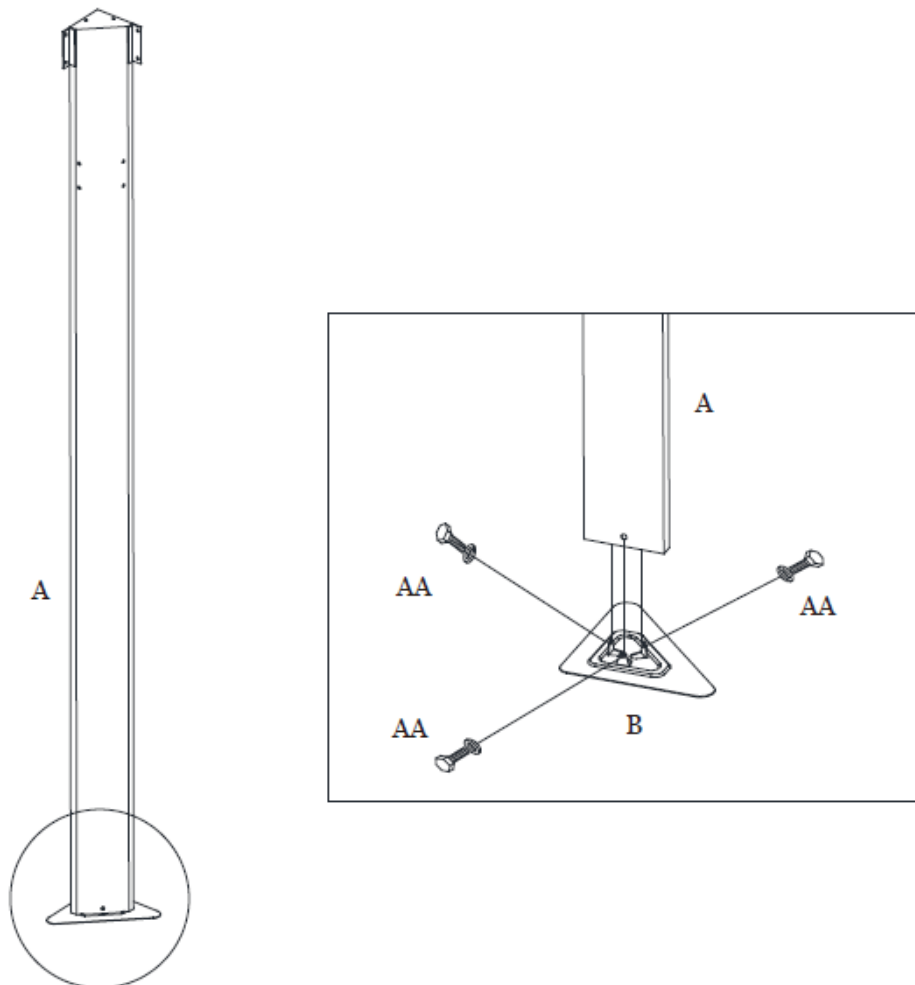

Figure 1
Step 1: Connect Corner Post Base Plate (B) to Corner Post (A) using Bolts (AA). Repeat for all Corner Posts and Base Plates. **Tighten all Bolts.** See Figure 1.